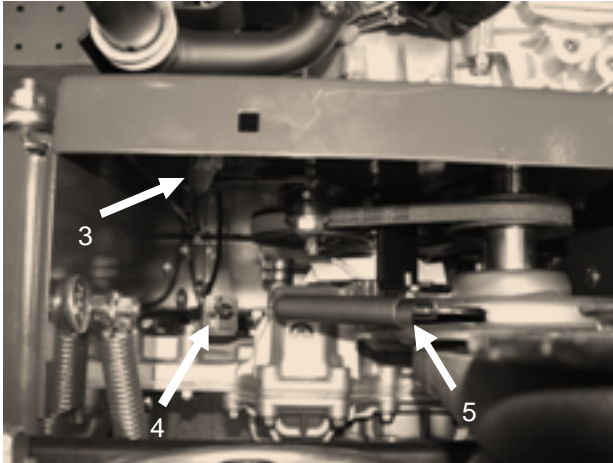

Figure 60
3. Using a 9/16 socket, remove idler tension spring retaining nut and washer. Remove spring from stud **Figure 60**.
5. Disconnect the spring from the clutch engagement arm **Figure 60**.